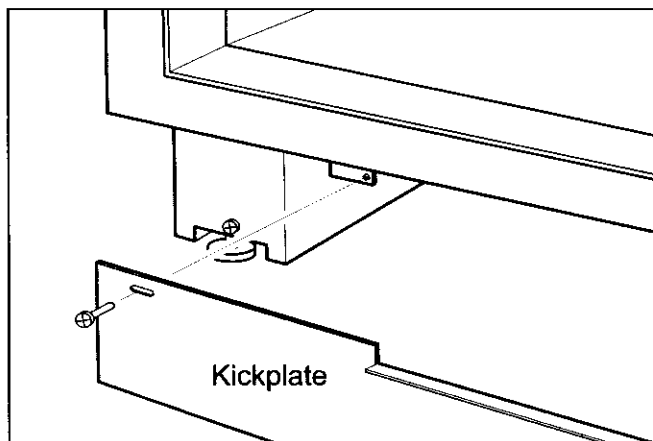

Figure 2-8. Kickplate Removal
1. To level unit, first remove kickplate (See Figure 2-8).